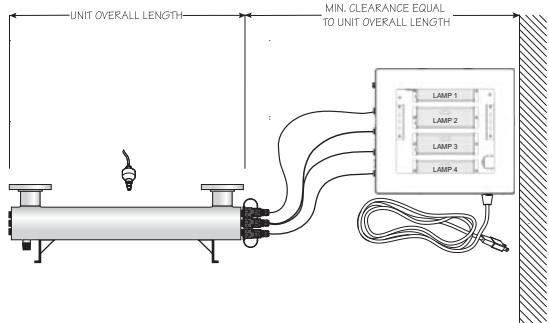

Figure 2 Disinfection System
- Figure 2** shows the installation of a typical disinfection system and the related components that may be used for the installation. The use of a by-pass assembly is recommended in case the system requires "off-line" maintenance. In this case, note the system requires supplementary disinfection for the distribution system if any water is used during by-pass condition. In addition, during by-pass, the water will NOT be disinfected and a "DO NOT CONSUME THE WATER" tag should be physically installed on the by-pass assembly until such time as the system is sanitized and returned to service. For more information, refer to our disinfection procedure, Section 3.1. If the water is to be consumed while the system is off-line, the water must be boiled for two minutes prior to consumption.
- Select a suitable location for the disinfection system and its related components. As it is recommended to install a GFCI, make sure that this is taken into consideration prior to any installation. The system must be installed horizontally, refer to Figure 2. When selecting a mounting location, you must leave enough space to allow for the removal of the UV lamps and/or quartz sleeves (typically leave a space equal to the size of the reactor chamber itself).